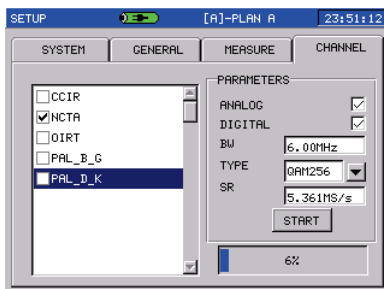

Figure3-1-6
- Press  to turn into Parameter setting, you can define the channel plan as Analogue channel plan, digital channel plan or analog/digital mixed channel plan. Also you can edit “Bandwidth, Modulation type, Symbol Rate” in digital channel plan. When your setup is finished, please press  to “START”, then press knob to create your user channel plan. For a while, new user plan will be saved automatically. Refer to Figure3-1-6.